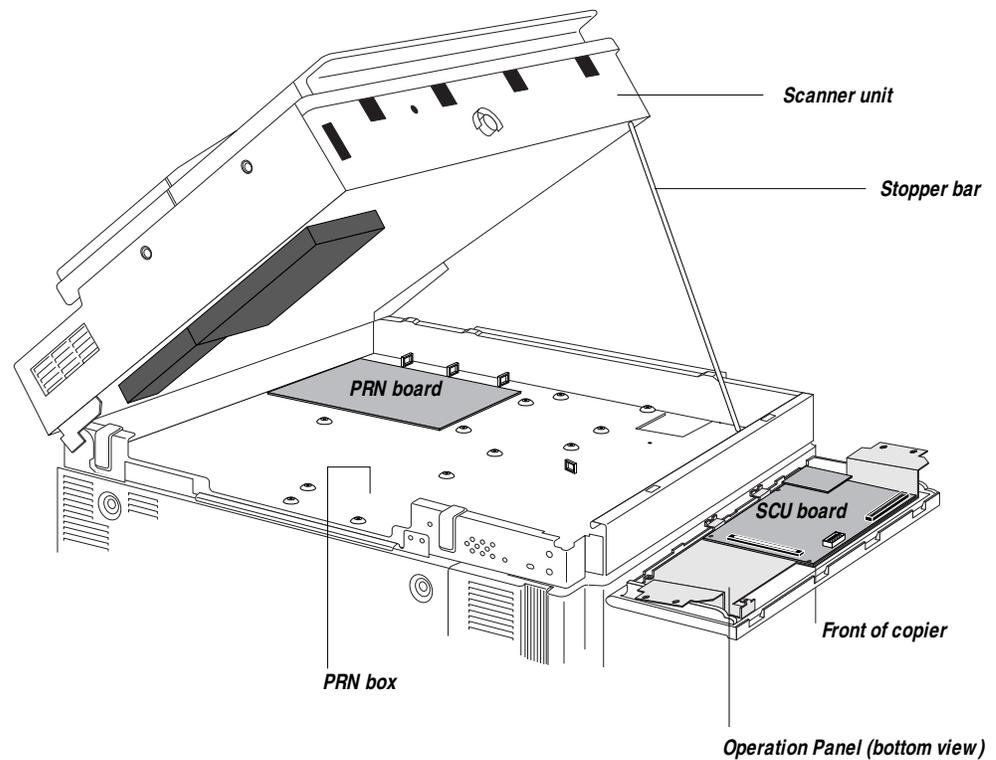

Figure 2-4 Accessing the PRN box
6. Lift the scanner unit and prop it up with the stopper bar (see Figure 2-4).